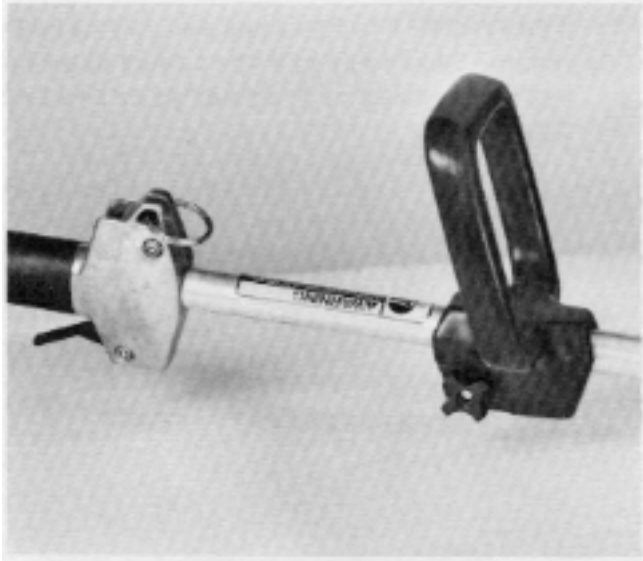

Figure 161
1. (TC3000 and TC4000) Slip the ring into the throttle control. See Figure 161.